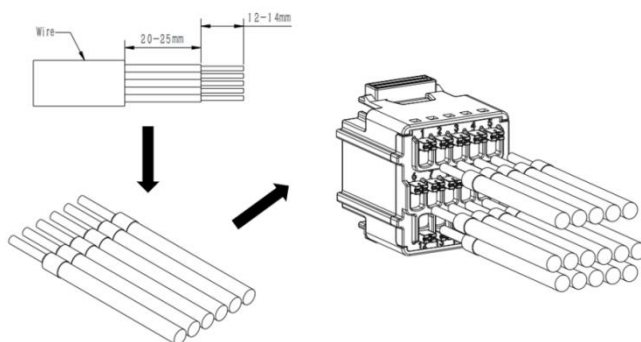

Figure 6-20-2 Insert the wires into the plastic core
- 2) Strip 12-14mm off the wire. Put the conductor cores through the terminals and then press & fit with the help of crimping pliers. Insert into the plastic core by sequence, as shown in Figure 6-20-2.